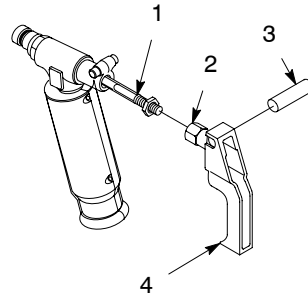

Figure 42 Remove the Trigger and Trigger Linkage (nozzle not shown)
5. See Figure 42. Remove the pivot pin, and unscrew the trigger and linkage from the packing-cartridge assembly.